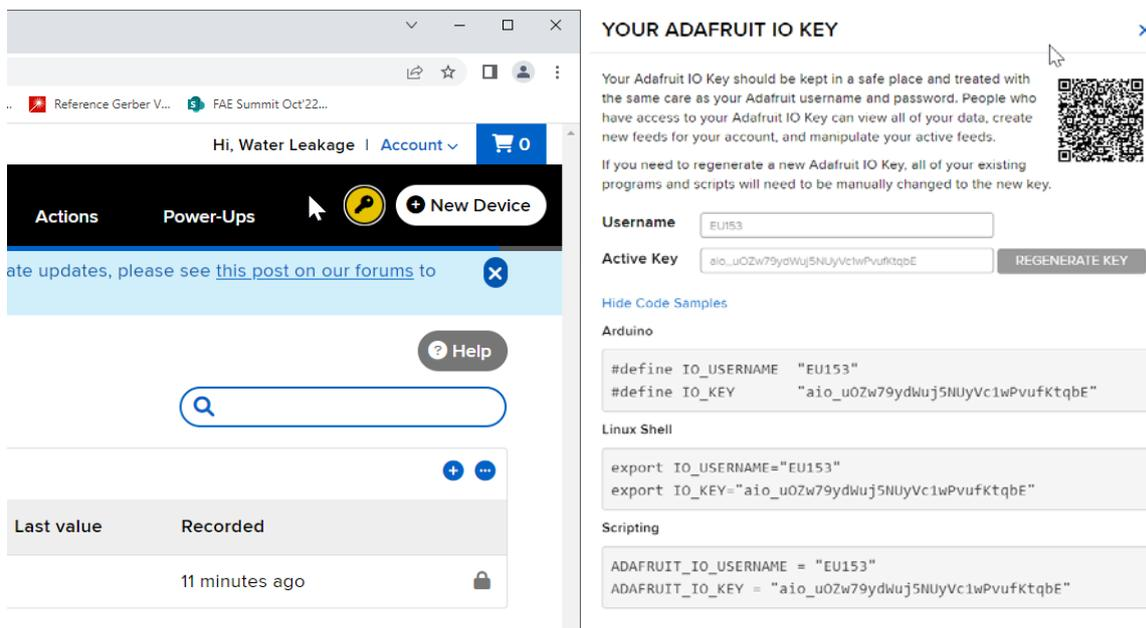

Figure 8. Adafruit IO MQTT broker username and password
2. MQTT broker/server credentials can be found by clicking on key in yellow background as it is shown in Figure 8. Active Key is password.